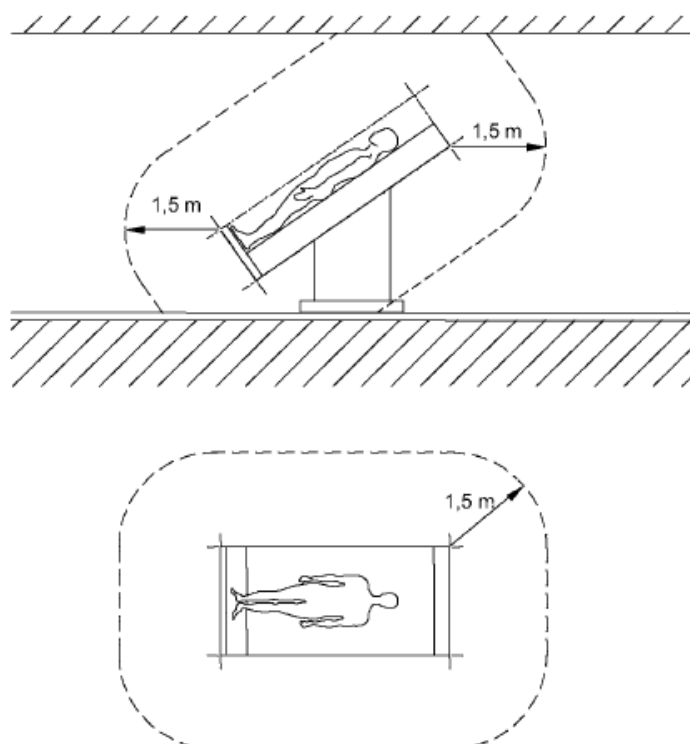

Fig. 1 Minimum extent of the PATIENT ENVIRONMENT
- Using a flat-nosed tool and taking care not to damage the paint on the top covers, remove the bottom covers of the downpipes ①, these are press-fitted. See figure 1.
- Now remove the upper covers of the main body ② which are also snapped on by hand. See figure 1.